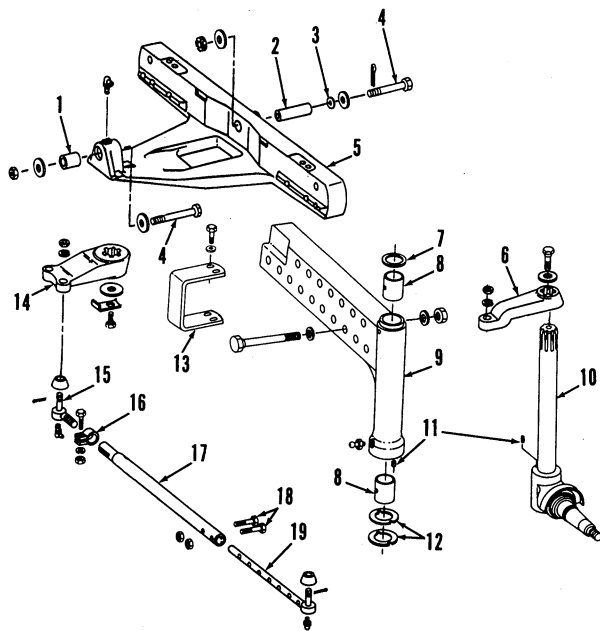

Fig. 2—Exploded view of adjustable tread front axle assembly.
3. TIE RODS AND TOE-IN. The tie rod outer ends (19—Fig. 2) are adjustable with several holes provided for changing axle width. Tie rod inner ends (15) are threaded to provide adjustment for toe-in. To adjust toe-in, remove bolts (18) and loosen clamp (16). Rotate tie rod tubes (17) to provide 1/8-3/8 inch (3-9 mm) toe-in. Be sure to adjust both tie rods to equal lengths. Tighten clamps and bolts to 35 ft.-lbs. (47 N·m).